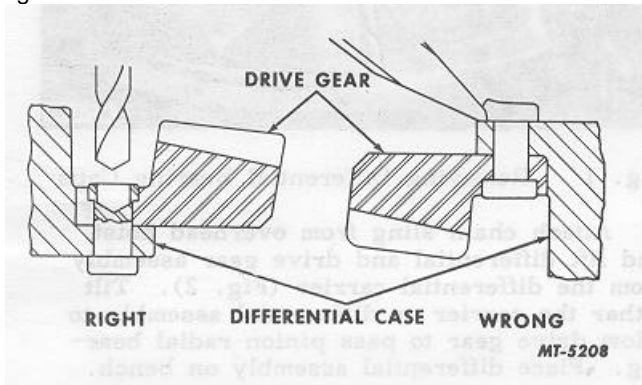

Fig. 3 Drive Gear Rivet Removal
11. If necessary to remove drive gear, carefully center punch each rivet head on drive gear side and drill through the rivet head with a drill .79 mm (1/32") smaller than rivet body (Fig. 3). Use a punch to press out remaining portion of rivet. Never use chisel to cut off rivet heads or damage to case might result.